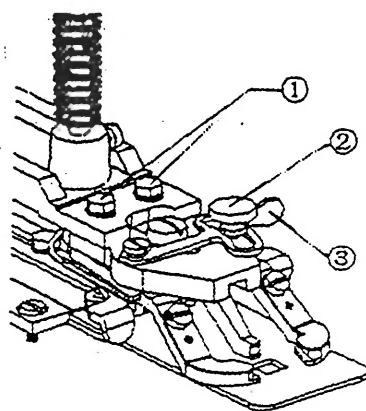

图 11 Fig.11
If the needle can not fall in the center of holes in the button due to improperly installed button clamp, then the button clamp must be adjusted. Loosen two hexagon screws (1), and move the button clamp properly (as shown in Fig.11). Check if the needle falls in the center of hole in feed plate before adjusting the button clamp.
5. Adjusting button clamp (as shown in Fig.11).
5. 钮夹的调整(见图 11)